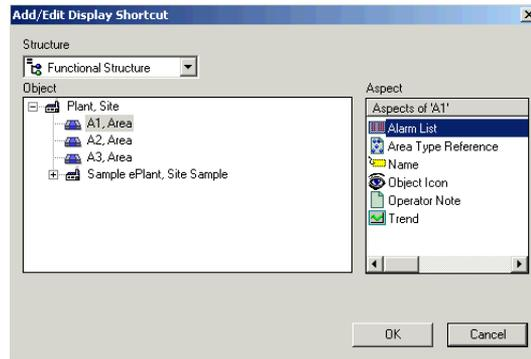

Figure 50. Application Bar Shortcuts Dialog Box
- Click on the **Add** button, and a new dialog box pops up. See Figure 50.